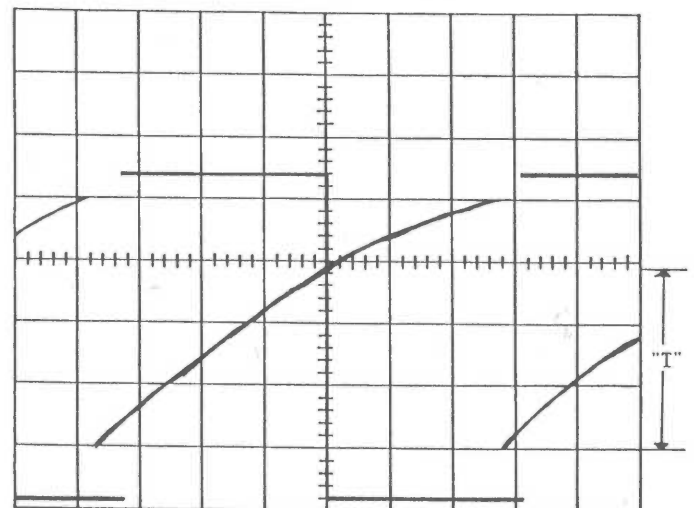

Fig. 6
- (1) Connect CH-1 on oscilloscope to TP2001 and connect CH-2 on oscilloscope to TP2002.
- (2) Playback the recorded portion and adjust VR2002 so that "T" portion may become  $2.8 \pm 0.2V$  as Fig. 6.